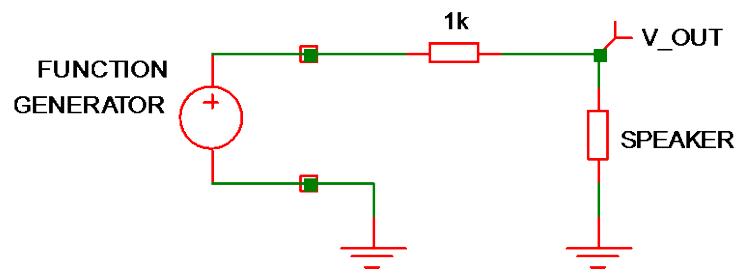

Fig. 2: Driving a low impedance load with a high impedance source.
- Step 2a: Build the circuit shown in Fig. 2.